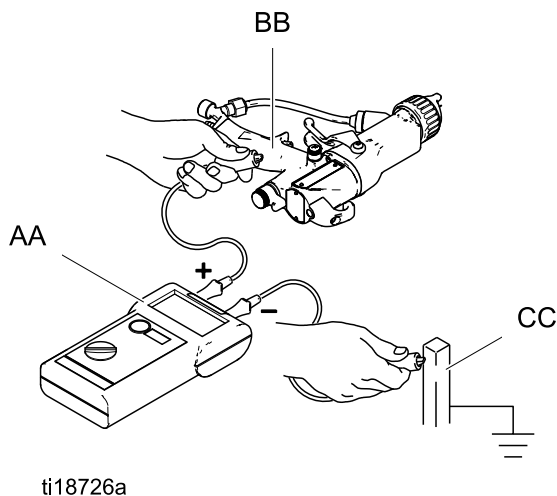

Figure 16 Check Gun Electrical Grounding
Megohmmeter Part No. 241079 (AA-see Fig. 16) is not approved for use in a hazardous area. To reduce the risk of sparking, do not use the megohmmeter to check electrical grounding unless:
2. Turn OFF (O) the ES On-Off switch.
5. Make sure the grounded air hose (AH) is connected and the hose ground wire is connected to a true earth ground.
6. Measure the resistance between the gun handle (BB) and a true earth ground (CC). Use an applied voltage of 500 minimum to 1000 volts maximum. The resistance should not exceed 1 megohm. See Fig. 16.